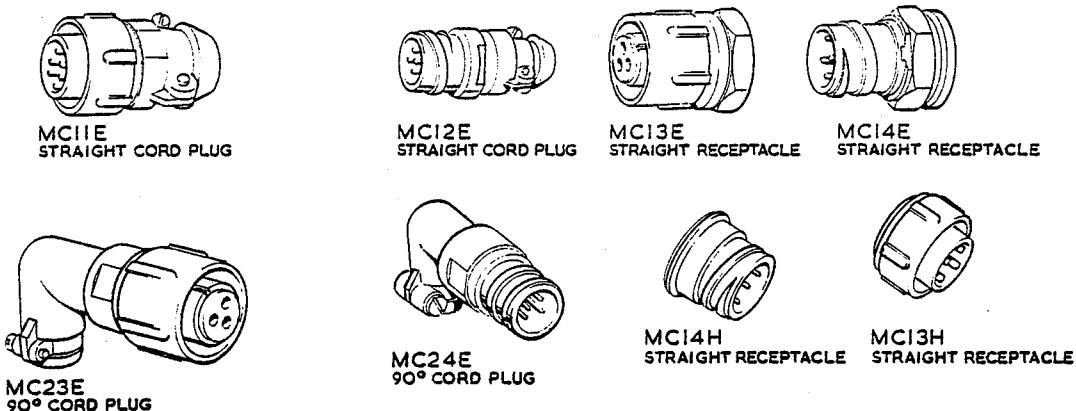
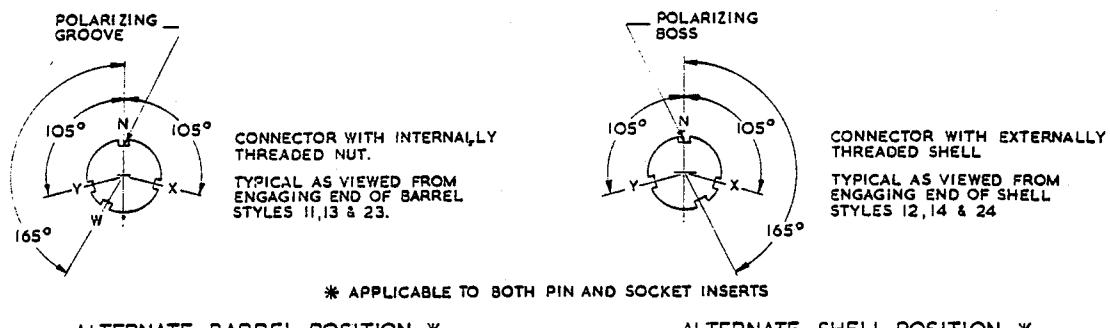

Fig. 1. MC series connectors
Fig. 2. Insert positions
- The insert positions are shown in fig.2.
- The available shell styles are shown in fig.1. Each shell style is available in the contact arrangements shown in fig.3. and the insert positions in para.3 and fig.2. Intermateability between shell styles is given in Table 1 mating guide.